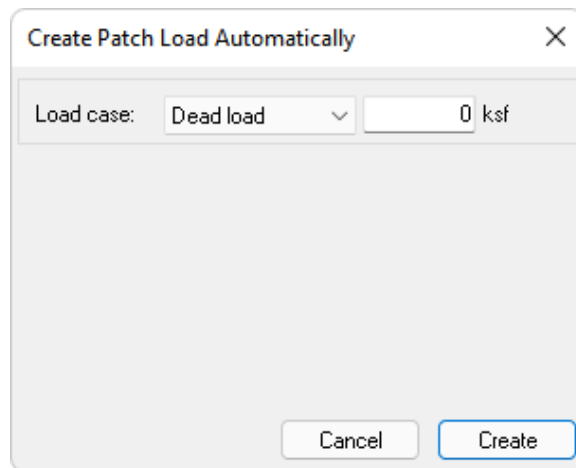

FIGURE 8-15
- Go to *Loading->General* and click on the **Patch Load Wizard**  icon. This will open the *Create Patch Load Automatically* dialog window shown in **FIGURE 8-15**.